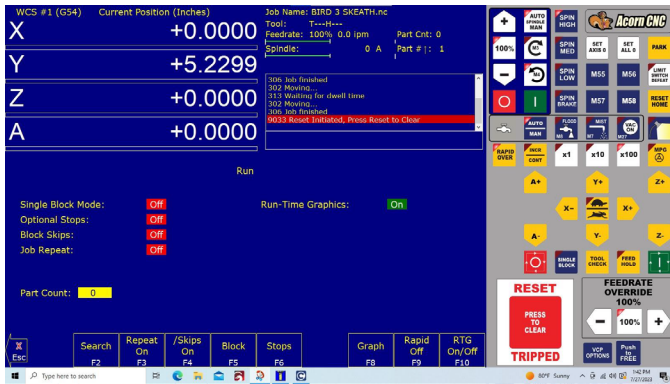

FIGURE 17
- Next, click on Run (F4), then click on Cycle Start (see Figure 17, green button). The next screen shows the software counting lines as the G-code is loaded to memory.